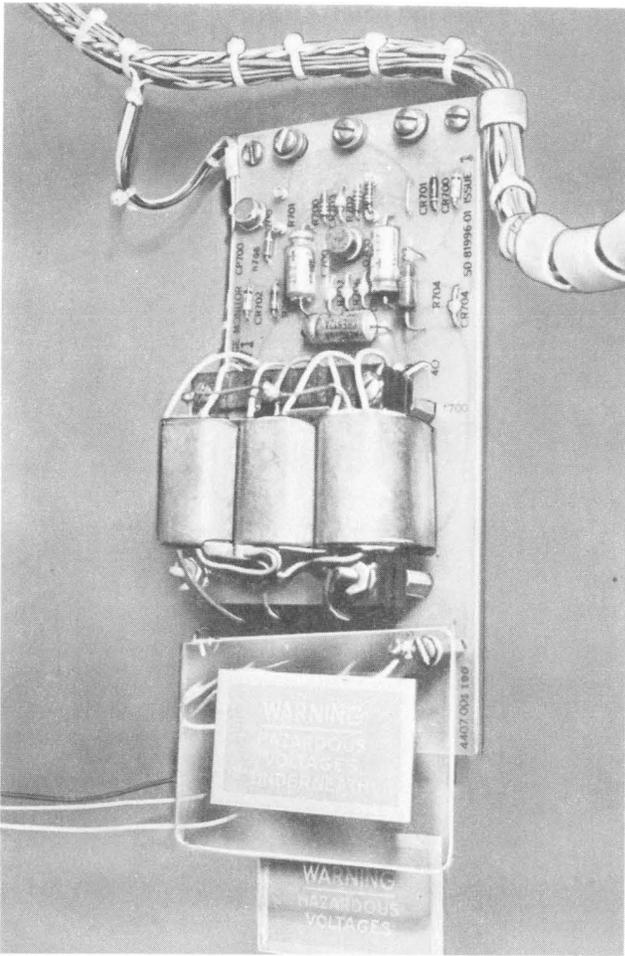

Fig. 6—Circuit Pack 700-AC INPUT VOLTAGE MONITOR
(1) Operate POWER ON/OFF (S2) switch to OFF.
(2) Operate DC OUTPUT (S1) switch to OFF. See 4.08, Caution 3.
(3) Remove fuses from power service cabinet.
(4) Remove protective covering from terminals of CP-700. See Figure 6.
(5) With KS-14510 (VOM) take the following resistance measurements.